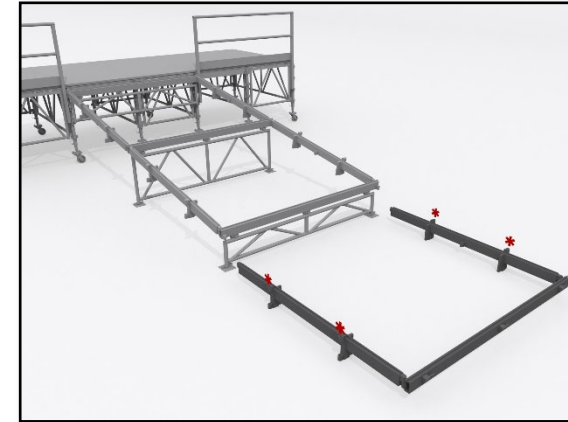

Fig. 46 – Secondary Beam Type One's into Primary Beam Type One
- 9.5.19 Locate 2 off Secondary Beam Type One's. Insert the connections at one end, into the holes in the top of Primary Beam Type Three. Ensure the handrail mounting points are facing the outside. *Fig. 46 – Secondary Beam Type One's into Primary Beam Type One*